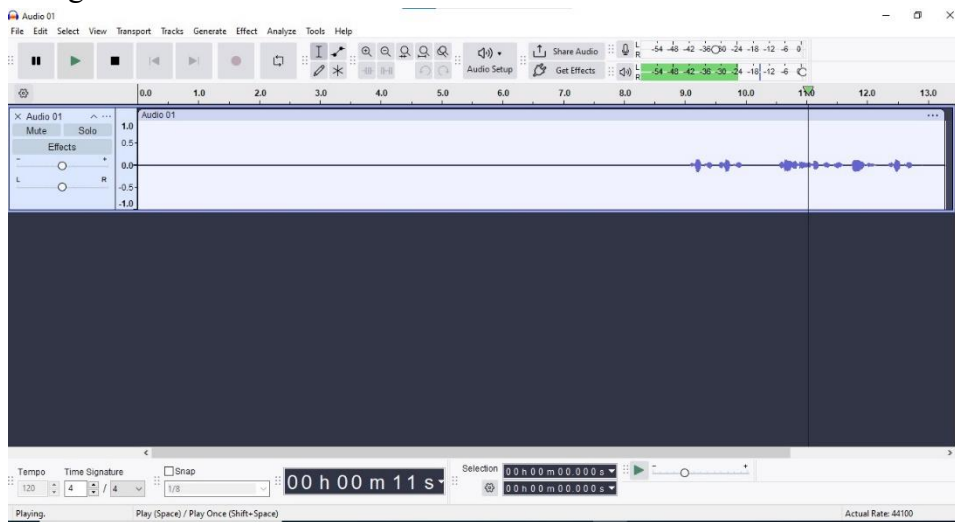

Figure 51: Play the Recoded Voice
- The audio is imported, click the Play button to listen to the recorded voice as shown in Figure 51.